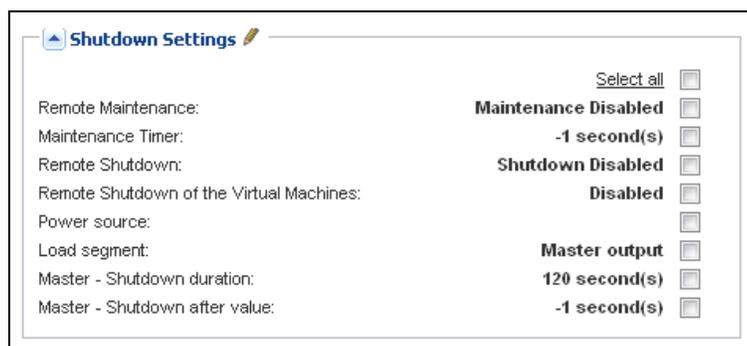

Figure 105. Example Shutdown Settings - Before Configuration
2. In the Shutdown Settings panel on the right side of the page, select the applicable checkboxes to configure the required parameters (see Figure 105 and Table 10).
- In the Shutdown Settings panel on the right side of the page, select the applicable checkboxes to configure the required parameters (see Figure 105 and Table 10).